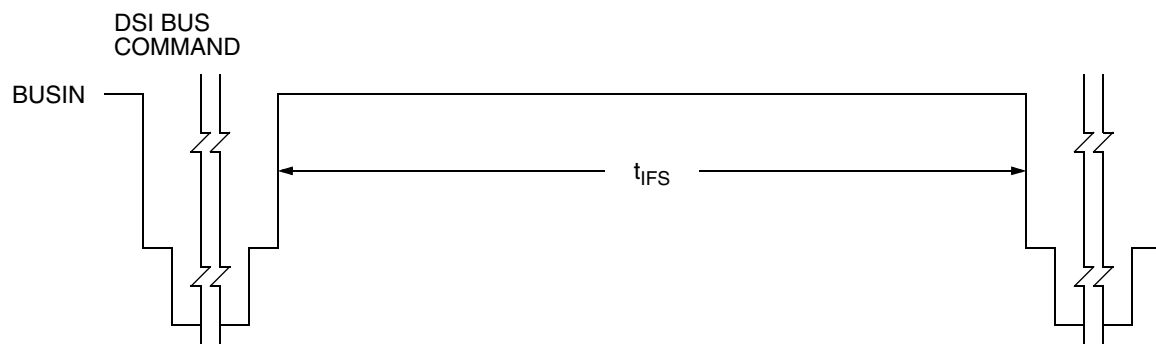

Figure 5-5. DSI Bus Interframe Timing
| 130 | Interframe Separation Time (see Figure 5-5) Following Read Write NVM Command | t_{IFS} | 2 | — | — | ms | (3) |